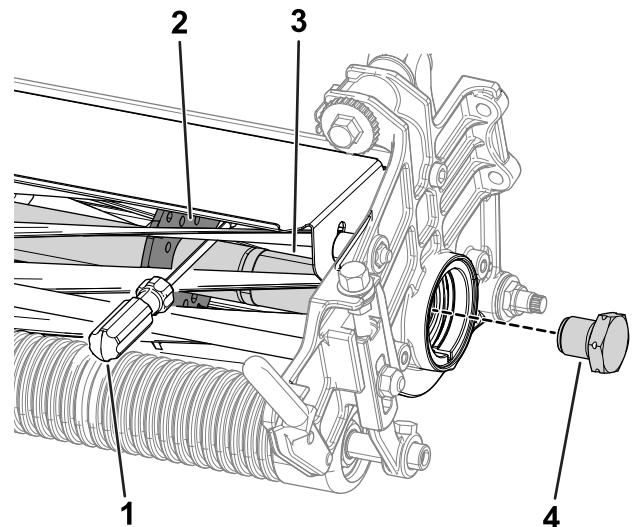

Figure 28
1. Insert a long-handled pry bar (recommended 3/8 inch x 12 inches with screwdriver handle) through the front of the cutting reel, closest to the side of the cutting unit that you will be torquing (Figure 28).
2. Place the pry bar against the weld side of the reel support plate (Figure 28).